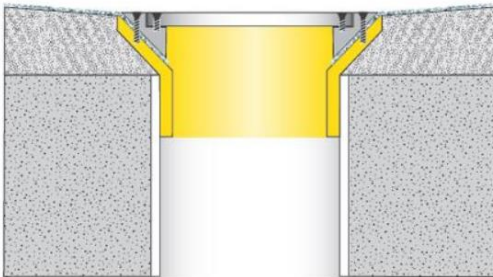

Figure 1: Ring & Clamp Floor Drain
- We require a push in 'ring and clamp' floor drain fitted prior to the installation of the flooring (Figure 1). Safety Zone Sheet is to be installed into the pull-down base with S-1000 Adhesive and clamped with the clamp ring and grate set.